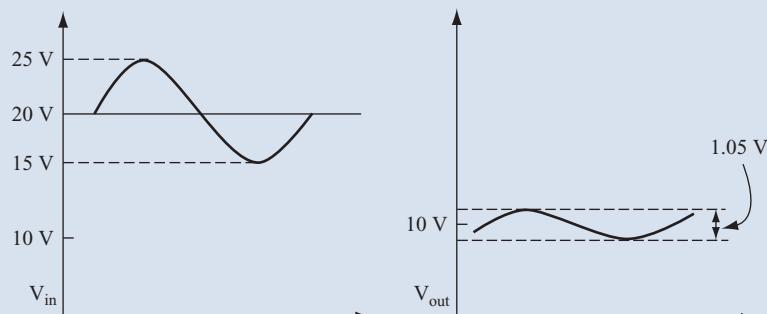

FIGURE 6.38
D. Figure 6.38 shows the input waveform on the left and the output waveform on the right. You can see from the waveforms that the DC voltage has dropped from 20 volts to 10 volts and that the AC voltage has dropped from 10 volts to 1.05 volts.